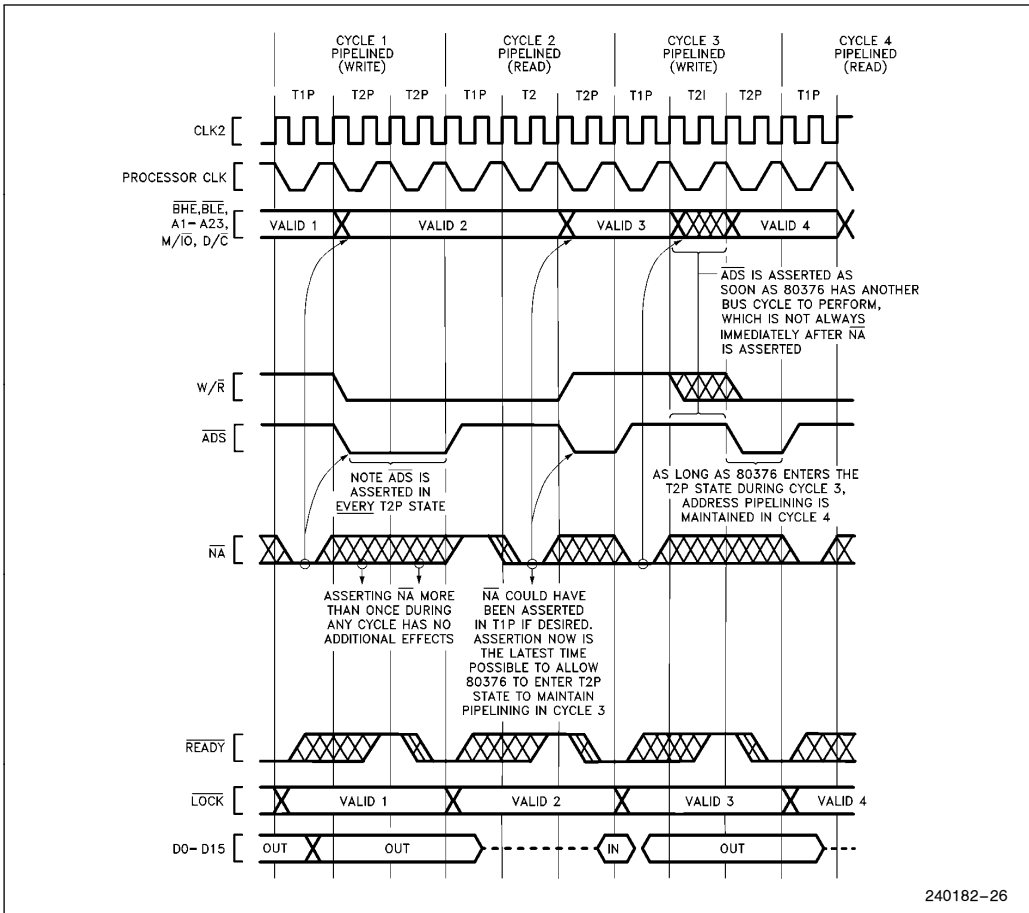

Figure 4.11. Details of Address Pipelining during Cycles with Wait States
1. The next address and status may appear as early as the bus state after  $\overline{NA}$  was sampled active (see Figures 4.9 or 4.10). In that case, state T2P is entered immediately. However, when there is not an internal bus request already pending, the next address and status will not be available immediately after  $\overline{NA}$  is asserted and T2I is entered instead of T2P (see Figure 4.11 Cycle 3). Provided the current bus cycle isn't yet acknow-
3. Only the address and bus cycle definition of the very next bus cycle is available. The pipelining capability cannot look further than one bus cycle ahead (see Figure 4.11, Cycle 1).